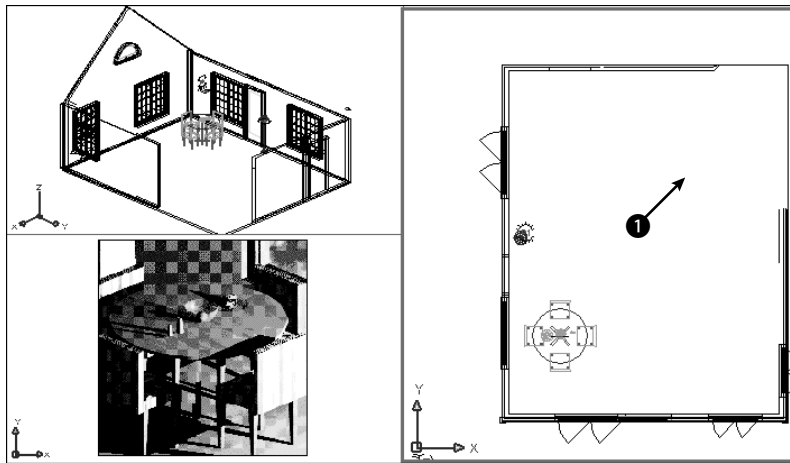

**Figure 27-9:** The drawing with a rendered view in one viewport.
11. Click the Layout1 tab to enter paper space, which has three floating viewports. Click PAPER to enter model space. Click the bottom-left viewport. Choose View ⇨ 3D Views ⇨ Top. You should now see the images as a small dot to the left of the house. Use Zoom Window to zoom into the rendered table. Your drawing should now look like Figure 27-9.
12. Click the right viewport. If necessary, pan the house to the right until you can see the two images that you attached. Move the Cottonmill Houses image to ① in Figure 27-9. Scale it, using a base point at its lower-left corner and a scale factor of 25. Move it until it fits nicely in the upper-right corner of the floor plan. Pan again to center the house in the viewport. (If it disappears, do a Zoom Extents.)